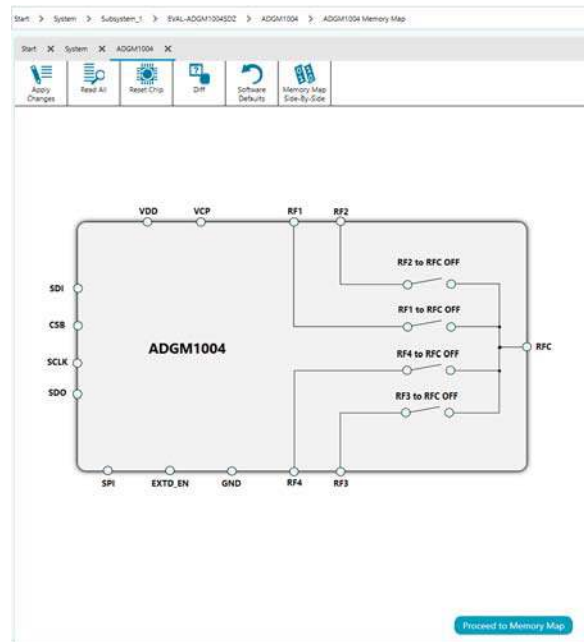

Figure 4. Chip Block Diagram View of the EVAL-ADGM1004SDZ Plugin
7. Double click the ADGM1004 chip to access the chip block diagram (see Figure 4). This diagram provides a basic representation of the EVAL-ADGM1004SDZ functionality. The main functions are labeled in Figure 4.